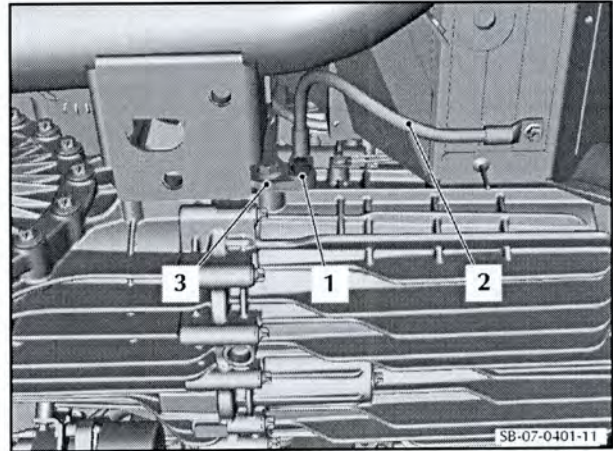

Figure 12
19. Remove the bolt (1) that attaches the ground cable (2) to the transmission mount bracket (3) and move the ground cable (2) away (refer to Figure 12).